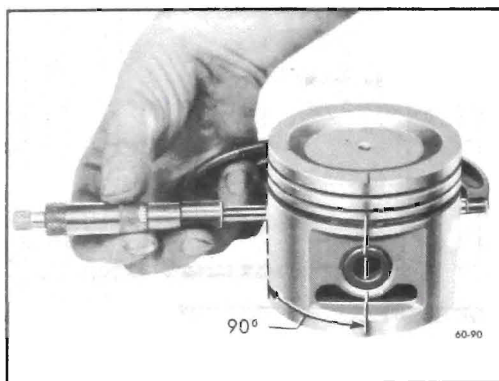

Figure 60-232--Measuring Piston
The pistons are cam ground, which means that the diameter at a right angle to the piston pin is greater than the diameter parallel to the piston pin. When a piston is checked for size, it must be measured with micrometers applied to the skirt at points 90° to the piston pin. See Figure 60-232. The piston should be measured (for fitting purposes) 1/4" below the bottom of the oil ring groove.
Before the honing or reboring operation is started, measure all new pistons with micrometer contacting at points exactly 90 degrees to piston pin (Figure 60-232) then select the smallest piston for the first fitting. The slight variation usually found between pistons in a set may provide for correction in case the first piston is fitted too free.
3. Measure the piston to be installed. See Figure 60-232. The piston must be measured at right angles to the piston pin 1/4" below the oil ring